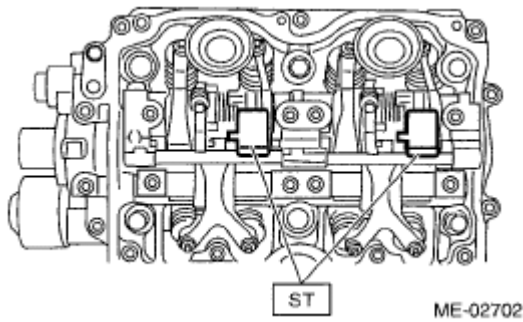

Fig. 100: Identifying Valve Rocker Assembly
1. Temporarily tighten the bolts equally in alphabetical order as shown in **Fig. 100**.